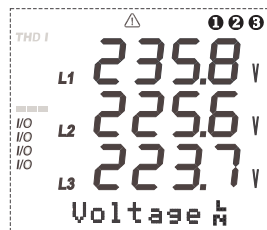

Figure 1: The existence of three phases on LCD.
① ② ③ indicators indicate the existence of the three phases. (See Figure 1)